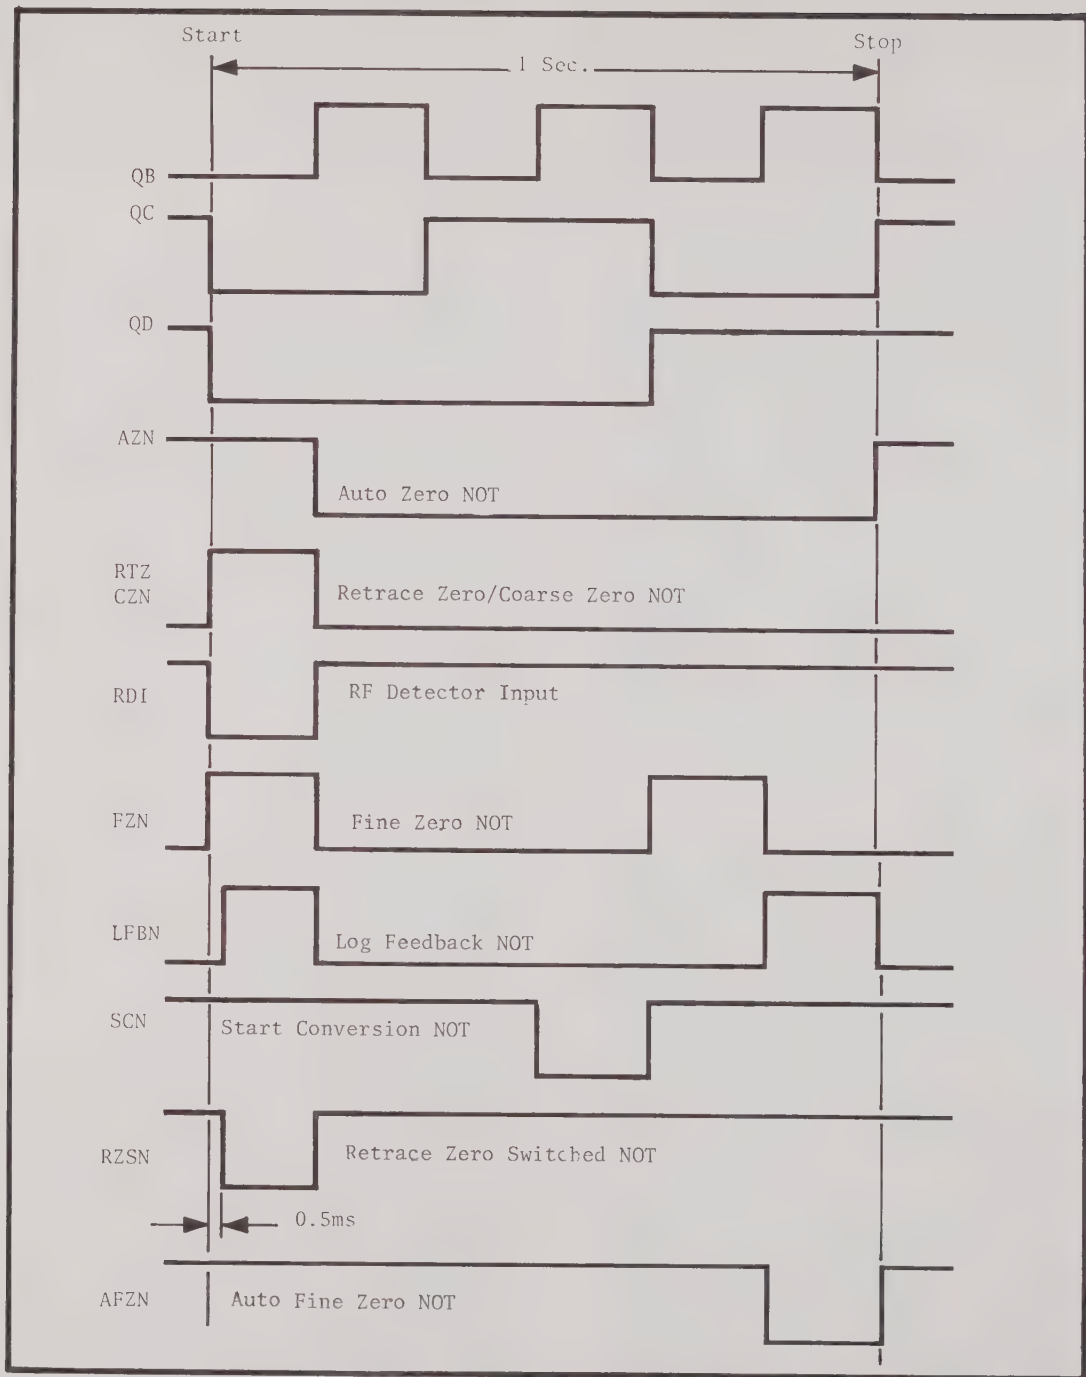

Figure 5-5 Auto Zero Timing Diagram
If the RF is not turned off during retrace, it becomes necessary to take into account the parasitic thermal potentials of the detector diode. As said before, if the RF is off the system will automatically zero itself without adjustment on the part of the operator. In the event that the RF remains on or partially on during retrace, it becomes necessary for the operator to periodically turn off the RF manually. This can be done through the bus or by physically turning off the power from the sweeper. Then, the **Auto Zero button** on the front of the N10 unit is pressed. This causes the N10 to go through a **cycle of events to read the dc voltage on the detector.** When the Auto Zero button is pressed, the circuitry performs a **normal retrace zero** (just discussed) wherein the voltage on capacitor C72 is updated and the N10 is properly zeroed with **U30 switched to ground.** The cycle is then repeated with the detector in the circuit so that the second zero will take into account any parasitic thermal voltage from the detector. In order to do this, the **first part of the cycle is a coarse zero** which makes use of successive approximation register U2 and DAC (Digital to Analog Converter) U3. U3 is fed through U10A (part of the DAC) and then back through switch U18 and R34 to correctly zero the Preamp in the coarse mode. U2 is triggered and goes through a successive approximation (normal A to D conversion) with U1B monitoring the voltage at the output of U19D through R74. **(C74 eliminates noise spikes.)** The successive approximation goes rather slowly, with each step taking 1/16th of a second. (See Figure 5-5 for the Timing Diagram.) All of the above occurs after the Auto Zero button has been pressed. A signal comes into the Preamp through pin 6 from the N10 microprocessor that says an Auto Zero is required. When the
Refer to Figure 5-5, Auto Zero Timing Diagram, for the logic associated with the Auto Zero function. The logic is basically a clocking sequence which is counted down through U15A and U15B (a 16 Hz signal is used as the trigger frequency to operate the successive approximation register). A series of signals are derived that allow various events to take place. U15A & B are counters, and U23 is a state decoder which selects three modes of operation. U23 allows: (1) retrace zero, then (2) the time interval for the coarse zero cycle, then (3) a one second time interval for the fine zero cycle. U16A, B, and C comprise a three bit comparator. The output of this array is true if the three most significant bits of U2 are equal. This will happen if the correction called for is at the extreme limits of either end. In other words, if it is desired to have one polarity of correction to equal an all true (1's) condition out of U10A, the opposite polarity of correction would equal an all false condition (0's). This indicates that the DAC is at the farthest limit of its ability to correct. This logic signal is fed to pin 12 of U17A (Zero Error). A Zero Error would be indicated if the operator left the RF on when trying to zero the N10 and the signal was too large for the instrument to correct or, if an unused channel were left on that did not have a detector attached. Then the zeroing process would have to be repeated after the RF was removed or the unused channel turned off. The final output of U23 (pin 6 – indicates zeroing process is over) will clock U17A. This means that the "Zero Error" will set U17 to produce an output that does two things: (1) connects an output signal called "Zero Lamp Off" (pin 9 at the input of the Preamp) through U8C and D to a 4 kHz clock from U15A. This causes the front panel "Auto Zero" lamp to start flashing to indicate